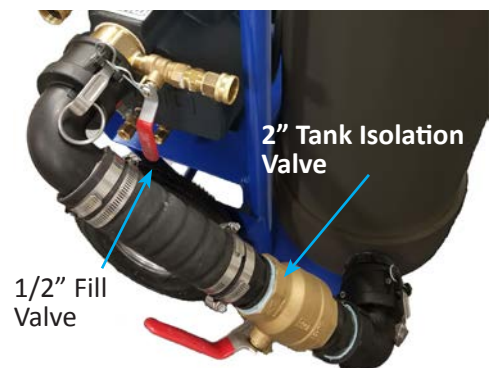
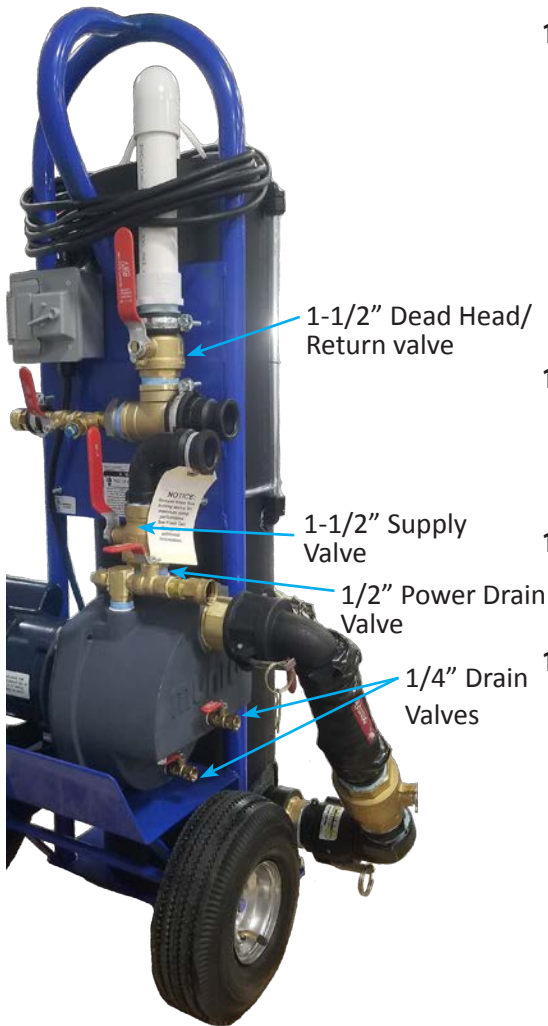
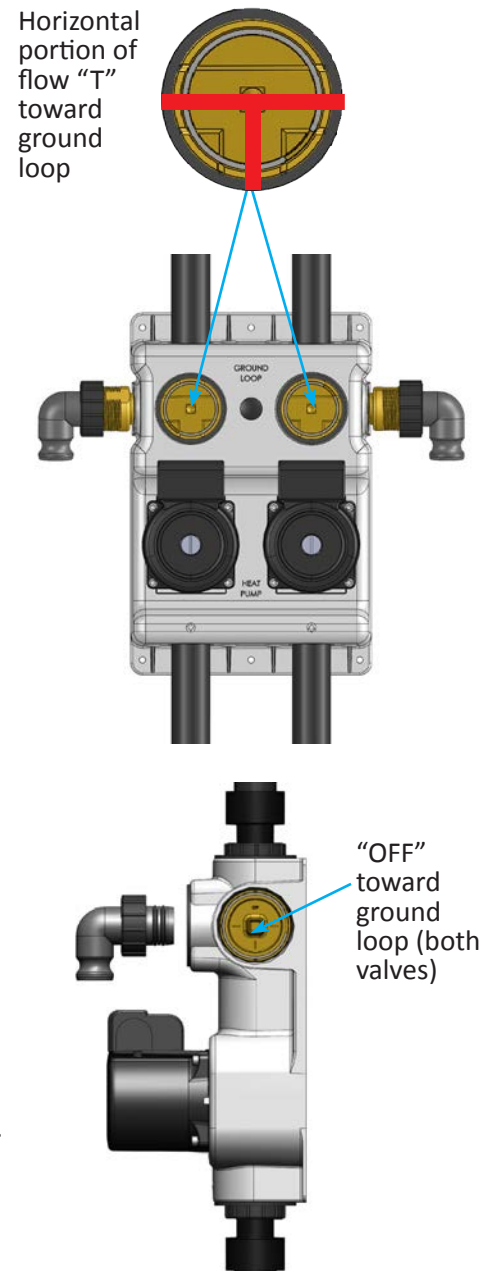

Figure 10: Fill Valve/Tank Isolation Valve
Figure 14: Flush Cart Valves in flushing steps
Figure 15: FPT flow center (top) and Flo-Link Double O-ring flow center (below) valve positions for ground loop isolation
4. Attach garden/utility hose to 1/2" fill valve (Figure 10). Attach other end of hose to acceptable municipal water supply or pre-mixed antifreeze source and transfer pump.
8. Close 2" tank isolation valve (Figure 10) and open the 1-1/2" dead-head valve (Figure 14).
9. Open 1/2" fill valve (Figure 10) and allow the loop to fill. Watch the fluid level in the tank via the sight tube. When the tank is nearly full, shut off the 1/2" fill valve and 1-1/2" supply valve (Figure 14).
10. Open the 2" tank isolation valve (Figure 10) and energize the pump. Slowly open the 1-1/2" supply valve (Figure 14) approximately 1/4 to 1/2 open. Air and debris will be pushed through the return piping. Debris will be captured in the bag filter and air will be released to the atmosphere.
11. Regulate the fluid level in the tank with the 1/2" fill valve (Figure 10) and the 1-1/2" supply valve (Figure 14) while the pump is running. Do not allow the fluid in the tank to drop too low or air will be pushed back into the loop extending flushing time.
NOTE: When the pump is running any air remaining in the loop will be pressurized. Therefore, if the pump is powered off during the flushing process the compressed air will expand pushing the loop fluid back in the tank. This could cause the tank to overflow. If the pump must be shut off during the process, close the 1-1/2" supply valve (Figure 14) and the 1-1/2" dead-head/return valve (Figure 14) to prevent fluid from returning to the tank.
12. When the fluid level remains relatively stable ensure that the 1-1/2" supply valve (Figure 14) is fully open.
14. While the pump is running, “dead-head” the pump by turning off the dead-head/return valve (Figure 14). Then, quickly reopen the valve allowing the fluid to return to the tank. This process drives the loop pressure up thereby compressing any air remaining in the loop. Quickly opening the valve creates a sudden high velocity surge that helps dislodge air into the fluid stream where it can be returned to the tank.
17. Close the 1-1/2” dead-head valve (Figure 14) while watching the fluid level in the sight tube. The dead-head process drives the static loop pressure to approximately 50 psi. Since fluid is incompressible but air can be compressed, this procedure shows whether air remains in the loop. In general, the fluid should not drop more than about 3/8” to 3/4” on a typical residential system. The slight drop in fluid is due to the expansion of the ground loop piping, and the actual drop will depend on the loop size (i.e. how much total pipe is in the loop) and fluid temperature.
18. Rotate 3-way valves on flow center so that the ground loop is isolated and fluid is directed toward the heat pump only. Figure 15 shows examples of how the valves may be oriented. This will vary depending on the flow center and installation. Open the 1-1/2” dead-head valve (Figure 14) and allow the fluid to continue to circulate.
19. Open the 1-1/2” dead-head valve (Figure 14) and allow the fluid to continue to circulate.
23. Close the 1-1/2” dead-head valve (Figure 14).
24. Close the 1-1/2” supply valve (Figure 14) to trap pressure in the system. Turn off the pump.
- 28. Open the 1-1/2" Supply and Return valves (Figure 14) to relieve the pressure in the hoses.
5. Run the flush cart for at least 30 minutes, while monitoring the filter. This very fine filter will catch clay, sand and other debris. If the filter overflows during the process, stop the pump and clean the filter as necessary. Continue until the loop fluid is completely filtered. Clean the 100 micron filter with clean water while the one micron filter is being used. Rotate the valves on the flow center to direct the fluid to the heat pump and allow the pump to run for another five minutes. Figure 15 shows examples of how the valves may be oriented. This will vary depending on the type of flow center installed.